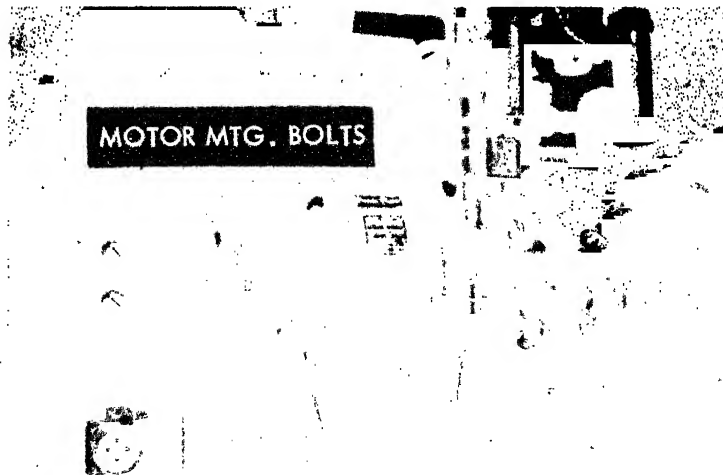

FIGURE 37. REMOVAL AND SERVICE TO BLOWER
3. Refer to Figures 37 and 38 and remove the blower.
1. Refer to Fig. 37 and install the blower.